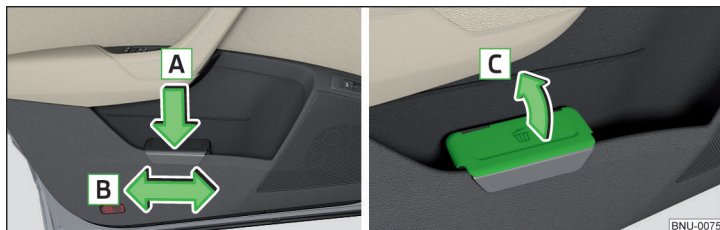

Fig. 111 Waste container: inserting and moving/opening
- Push the waste container in the rear area in the direction of the arrow **A** » Fig. 111.
- Remove the waste container in the opposite direction to the arrow **A** » Fig. 111.
- Lift the cover in the direction **C** » Fig. 111.